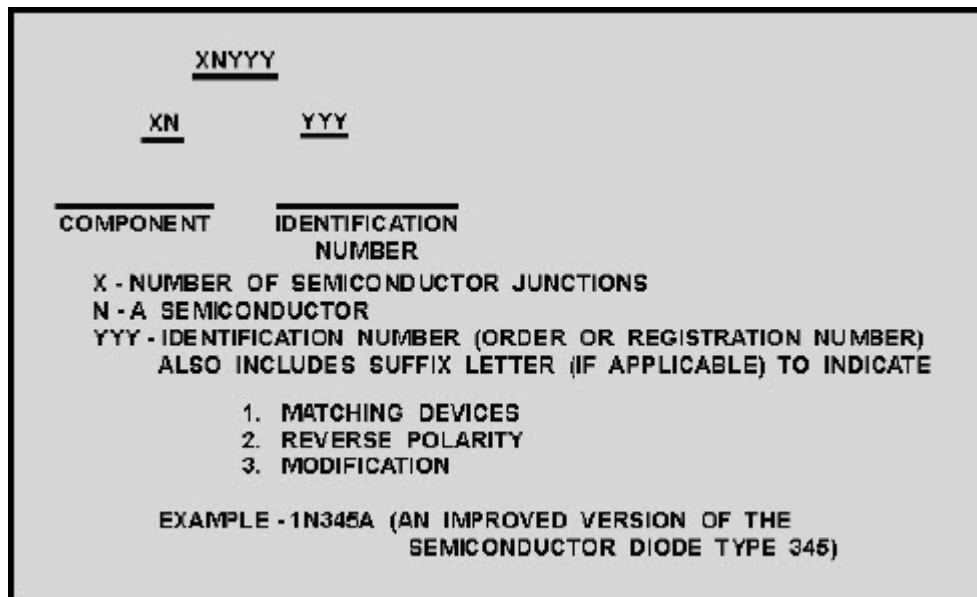

Figure 1-25 Semiconductor identification codes
There are many types of diodes varying in size from the size of a pinhead (used in subminiature circuitry) to large 250-ampere diodes (used in high-power circuits). Because there are so many different types of diodes, some system of identification is needed to distinguish one diode from another. This is accomplished with the semiconductor identification system shown in figure 1-25. This system is not only used for diodes but transistors and many other special semiconductor devices as well. As illustrated in this figure, the system uses numbers and letters to identify different types of semiconductor devices. The first number in the system indicates the number of junctions in the semiconductor device and is a number, one less than the number of active elements. Thus 1 designates a diode; 2 designates a transistor (which may be considered as made up of two diodes); and 3 designates a tetrode (a four-element transistor). The letter "N" following the first number indicates a semiconductor. The 2- or 3-digit number following the letter "N" is a serialized identification number. If needed, this number may contain a suffix letter after the last digit. For example, the suffix letter "M" may be used to describe matching pairs of separate semiconductor devices or the letter "R" may be used to indicate reverse polarity. Other letters are used to indicate modified versions of the device which can be substituted for the basic numbered unit. For example, a semiconductor diode designated as type 1N345A signifies a two-element diode (1) of semiconductor material (N) that is an improved version (A) of type 345.